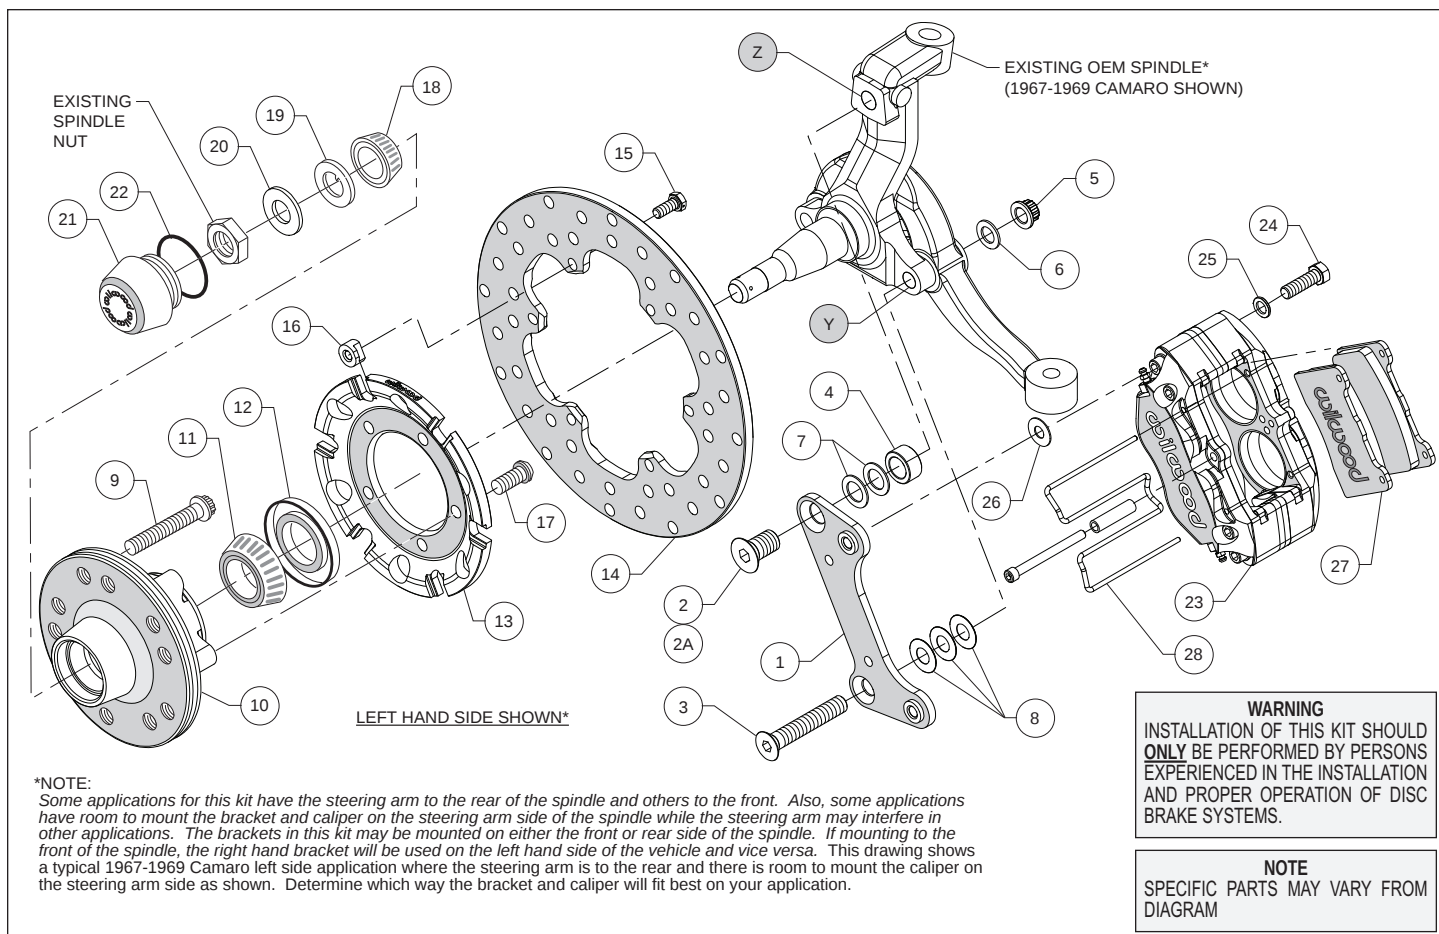
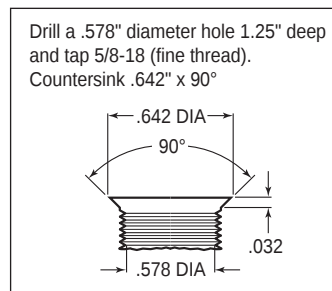
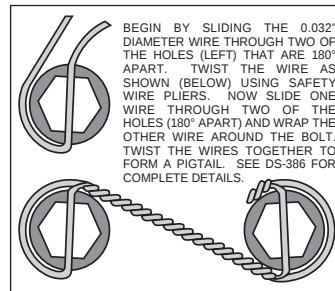
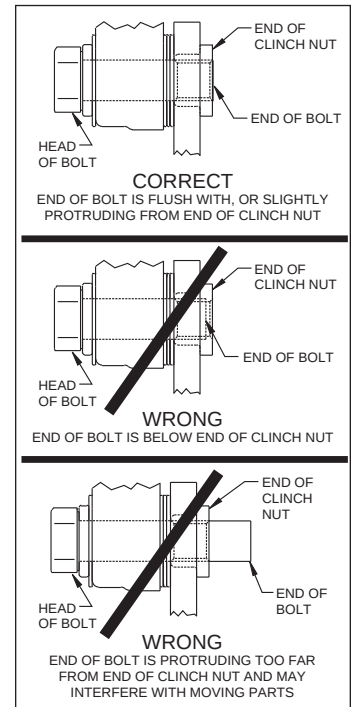

Figure 1. Typical Installation Configuration
Figure 3. Drill and Tap Detail
Figure 4. Safety Wire Diagram
Figure 5. Clinch Nut Engagement Diagram
Assembly Instructions (numbers in parenthesis refer to the parts list, on the preceding page and Figure 1): **CAUTION:** All mounting bolts must fully engage clinch nuts. Be sure to check that all bolts are either flush or protruding through flanged side of clinch nut after shimming, Figure 5.
•**NOTE:** Some applications for this kit have the steering arm to the rear of the spindle and others to the front. Also, some applications have room to mount the bracket and caliper on the steering arm side of the spindle while the steering arm may interfere in other applications. The brackets in this kit may be mounted on either the front or rear side of the spindle. If mounting to the front of the spindle, the right hand bracket will be used on the left hand side of the vehicle and vice versa. Figure 1 shows a typical 1967-1969 Camaro left side application where the steering arm is to the rear and there is room to mount the caliper on the steering arm side as shown. Determine which way the bracket and caliper will fit best on your application.
•**NOTE:** Some spindles in this year range may require the following modifications (reference Figure 1 and Figure 3): Top anchor pin hole (Z) must be drilled and tapped to the dimensions as outlined in Figure 3. The lower bolt hole (Y) in the spindle used to mount the new caliper bracket, and the mating steering arm hole, must be enlarged to .50" by drilling. It is recommended these modifications be performed by a qualified machinist.
- Orient the rotor (14) and the rotor adapter (13) as shown in Figure 1 and Photo 3. Attach the rotor to the adapter using bolts (15) and T-nuts (16). Using an alternating sequence, apply red *Loctite*® 271 to the threads, and torque to 120 in-lb. Safety wire bolts using standard 0.032 inch diameter stainless steel safety wire as shown in Figure 4. Refer to Wilwood's data sheet DS-386 (available at www.wilwood.com/Pdf/DataSheets/ds386.pdf) for complete safety wire installation instructions.
- Mount the adapter/rotor assembly (13 and 14) to the hub (10) using bolts (17), as shown in Figure 1 and Photo 4. Using an alternating sequence, apply red *Loctite*® 271 to the threads, and torque to 45 ft-lb.
- Disc Brake Spindle Application Only:** Follow the instructions below, but instead use bolt (2A), spacer (4), and two .050" thick shims (7) in the upper bolt hole location, Figure 1.
- Orient the caliper mounting bracket (1) as shown in Figure 1 and Photo 5, and install using bottom bolt (3), washer (6), and nut (5), Figure 1. Initially place three .032" thick shims (8) between the bracket and spindle. Install the upper bolt (2). Temporarily tighten bolts. **NOTE:** The bracket must fit squarely against the mounting surfaces on the spindle. Inspect for interference from casting irregularities, machining ridges, burrs, etc. Temporarily install the new hub and rotor assembly. Check that the bracket is aligned parallel to the rotor, Photo 6. If not, adjust by adding or subtracting shims (8) on the lower bolt between the bracket and spindle, Figure 1. Once the bracket alignment is correct, remove the upper bolt (2 or 2A), apply red *Loctite*® 271 to the bolt threads, and torque to 120 ft-lb. Torque the lower lock nut to 65 ft-lb.
- NOTE:** Please reference the caution statement at the beginning of the assembly instructions. Mount the caliper (23) onto the caliper mounting bracket (1) using bolts (24) and washers (25), as shown in Figure 1. Initially place one .035" thick shim (26) on each bolt between the caliper and the bracket, Photo 9. Temporarily tighten the mounting bolts and view the rotor (14)
through the top opening of the caliper. The rotor should be centered in the caliper, Photo 10. If not, adjust by adding or subtracting shims (26) between the bracket and the caliper. Always use the same amount of shims on each of the two mounting bolts. **NOTE:** The end of each bolt must be flush with or slightly protruding from the head of the clinch nut, as shown in Figure 5. If necessary place spare shims (26) between washer (25) and caliper mounting ear to achieve the proper clinch nut engagement. Once the caliper alignment and clinch nut engagement are correct, remove the bolts one at a time, apply red *Loctite*® 271 to bolt threads, and torque to 40 ft-lb. For an added measure of security, the bolts may be safety wired using standard 0.032 inch diameter stainless steel safety wire as shown in Figure 4. Refer to Wilwood's data sheet DS-386 (available at www.wilwood.com/Pdf/DataSheets/ds386.pdf) for complete safety wire installation instructions.